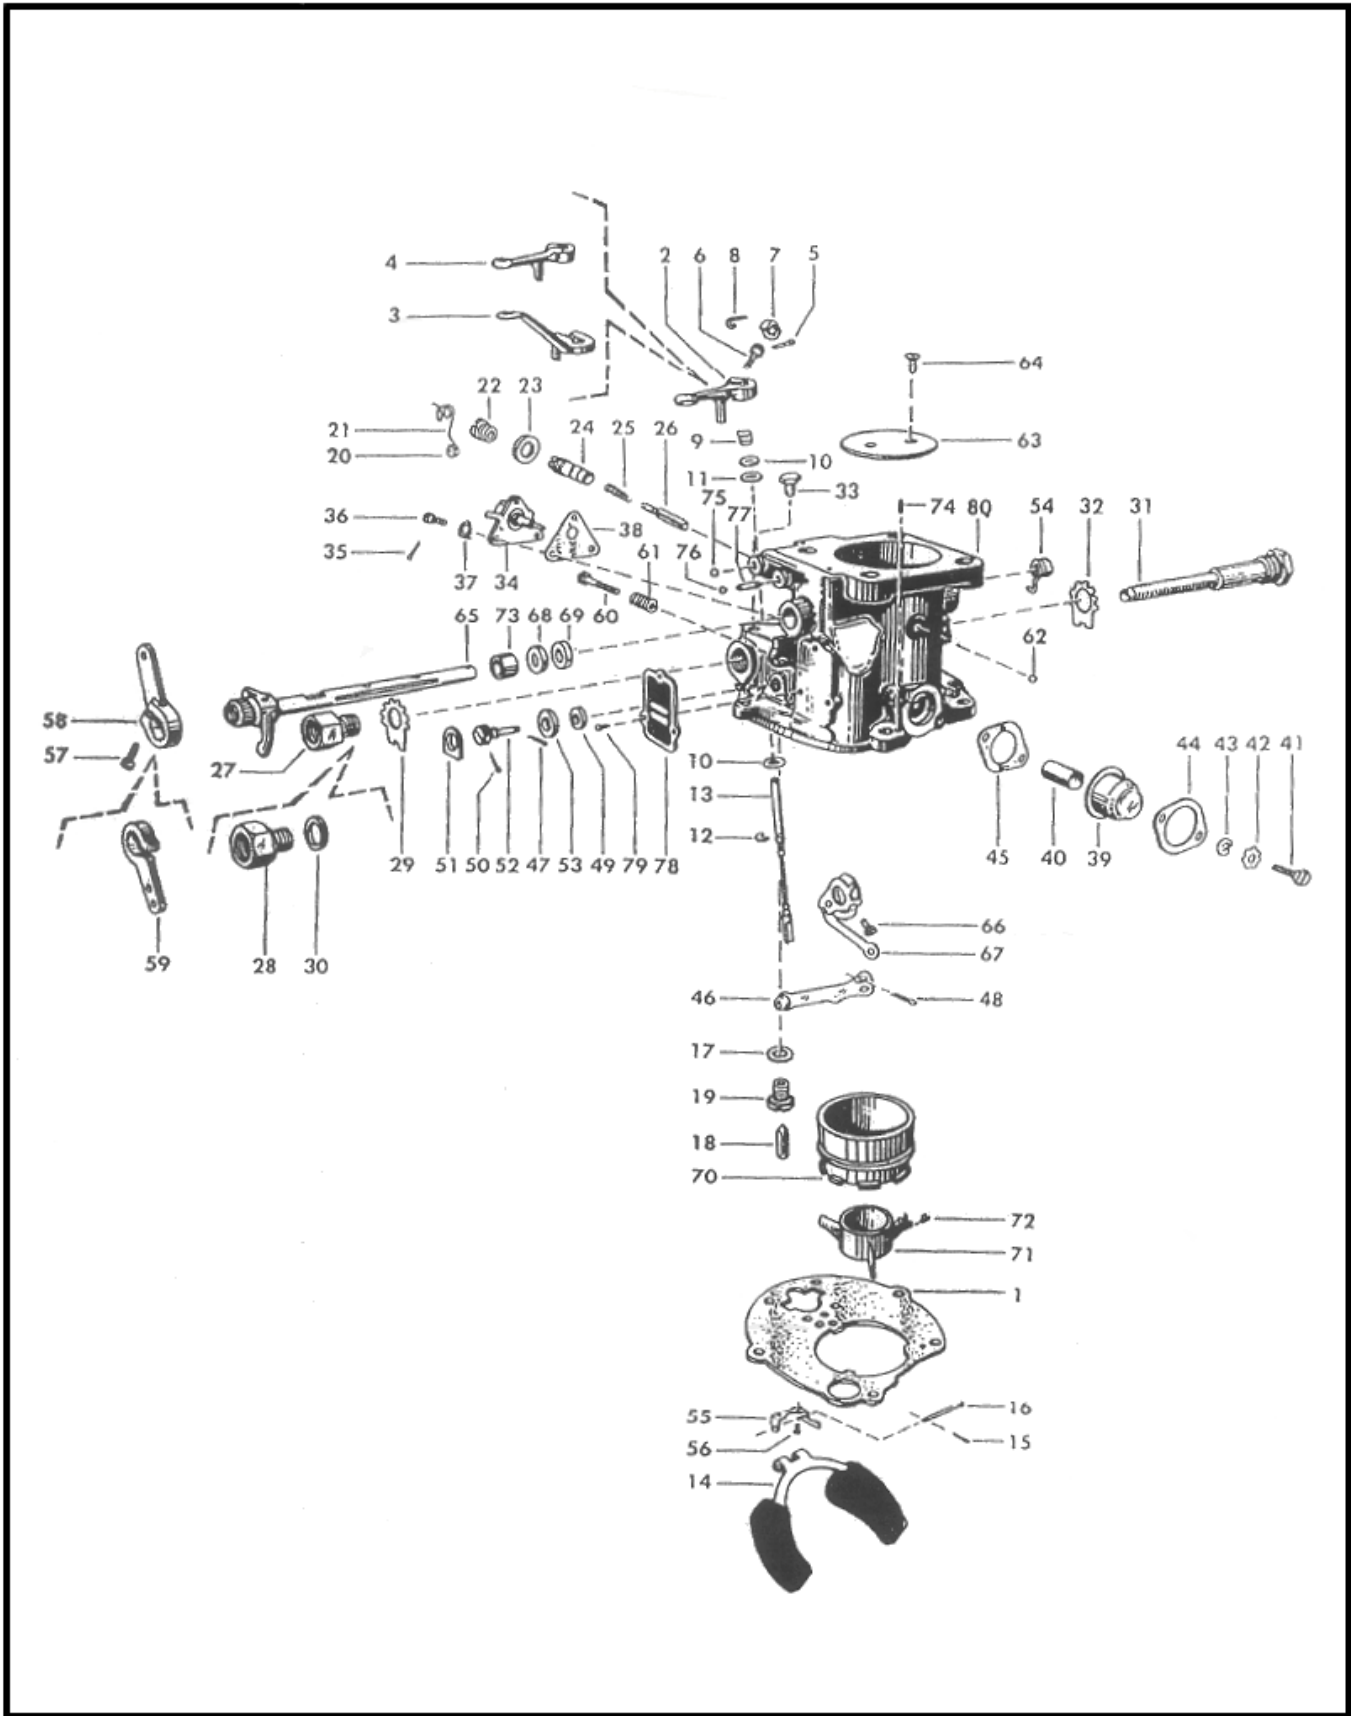

Figure 2-19. Throttle Body and Bowl Cover Assembly - Exploded View
2-20. COMPLETE BODY AND BOWL COVER ASSEMBLY. (See figure 2-19.)
a. Remove the cotter pin (15) from the float shaft (16). Slide the float shaft (16) out of the float bracket (55) and remove the float and lever assembly (14). Lift out the float valve (18).
b. Remove the throttle body to bowl gasket (1).
c. Remove the cotter pin (5) from the head of the special bolt (6), and slide the special lock washer (7) off the head of the bolt (6). Remove the special bolt (6) and slide the mixture metering valve assembly (13).
d. Lift out the mixture control valve lever lock wire (8) and remove the mixture metering valve head spring (9), mixture metering valve head washer (10), and the mixture metering valve head gasket (11). Slide the mixture metering valve assembly (13) out of the throttle body (80) and remove the second mixture metering valve head washer (10). It is not necessary to remove the horseshoe washer (12) unless replacement is required.
e. Using a small chisel or thin screwdriver blade, break the solder between the two bolts (56) and the float valve seat (19). Unscrew and remove the float valve seat (19) and float valve seat gasket (17). Remove the two bolts (56) and float bracket (55).
f. Cut and remove the lead seal (2) and locking wire (21) from the air metering pin jet plug (22). Remove the air metering pin jet plug (22) and air metering pin jet plug gasket (23). Using the air metering pin gage (4, figure 2-17), remove the air metering pin jet (24, figure 2-19). The air metering pin gage is inserted in the same manner as in figure 2-25. Slide the air metering pin (26) out of the air metering pin jet (24) and remove the air metering pin return spring (25).
g. Bend the tabs of the fuel inlet gasket (2) free of the fuel inlet connection (27) and unscrew and remove the fuel inlet connection.
h. Bend the tabs of the fuel inlet strainer gasket (32) away from the head of the fuel inlet strainer assembly (31), and remove the fuel inlet strainer assembly and gasket.
i. If removal of the two pipe plugs (33) is required, cut the locking wire and remove the two pipe plugs. Removal of these plugs is not necessary unless replacement is required.
j. Slide the special lock washer (37) off the heads of the three special bolts (36) and remove the bolts.
References for figure 2-19
v. Insert the throttle shaft bushing remover (16, figure 2-17) into the throttle shaft bore of the throttle body (80, figure 2-19) and tighten enough to permit gripping the throttle shaft bushing (73). This tool is installed in the same manner as shown in figure 2-6. Tap the small end of the bushing remover with a soft-faced hammer until the bushing slides out of the throttle body. This operation is the same as shown in figure 2-7. Move the throttle shaft bushing remover to the other side of the throttle body (80, figure 2-19) and remove the throttle shaft packing retainer (68) and throttle shaft packing (69).
- d. Check the spring (9) for distortion and signs of weakness; replace for either condition. Replace the pump plunger rod assembly if worn at the fulcrum pin.
- e. Check the mixture control lever (2, figure 2-19) for cracks, warpage, and wear in the outer hole; replace for any of these conditions.
- f. Check the mixture metering valve assembly (13) for wear, looseness at the ends of the flexible shaft, and damaged flexible shaft; replace for any of these conditions.
- g. Check the float and lever assembly (14) for distortion, insecurity of soldered joints, and dents in the floats. Replace for any of these conditions. Test the float in accordance with paragraph 3-22.
- h. Check the float shaft (16) and float bracket (55) for wear and distortion; replace for either condition.
- i. Check the float valve (18) and float valve seat (19) for wear. The float valve (18) can be checked effectively by sliding a fingernail along the seat. If a groove is worn in the surface, the float valve should be replaced. (Refer to paragraph 2-8, k.)
2-24. TESTING. Test the float and lever assembly (14, figure 2-19) in accordance with paragraph 2-9.